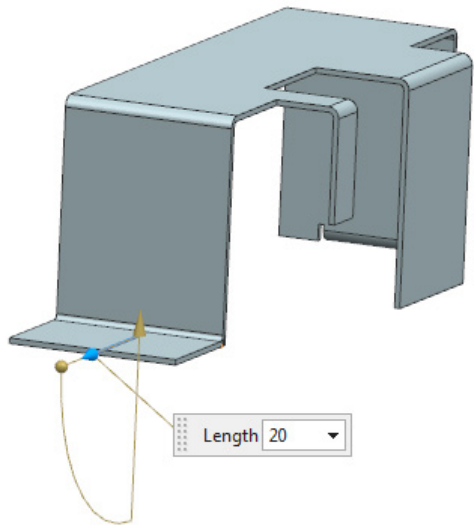

Figure 14-116 Preview of the sixth flange
12. Finally, create the sixth flange of 20 mm length on the bottom edge of the previous flange, refer to Figure 14-116 and then exit the **Flange** dialog box.